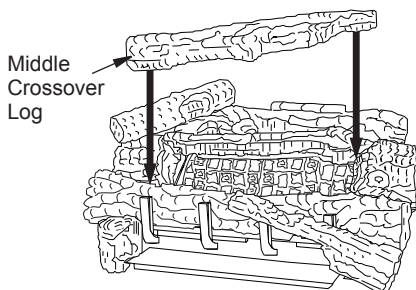

Figure 33 - Installing Middle Crossover Log
10. Rest the middle crossover log onto the right middle log and the left front log (see Figure 33). Make sure to match the projection on the bottom of the crossover log with the recess area in the right middle log and the left front log.